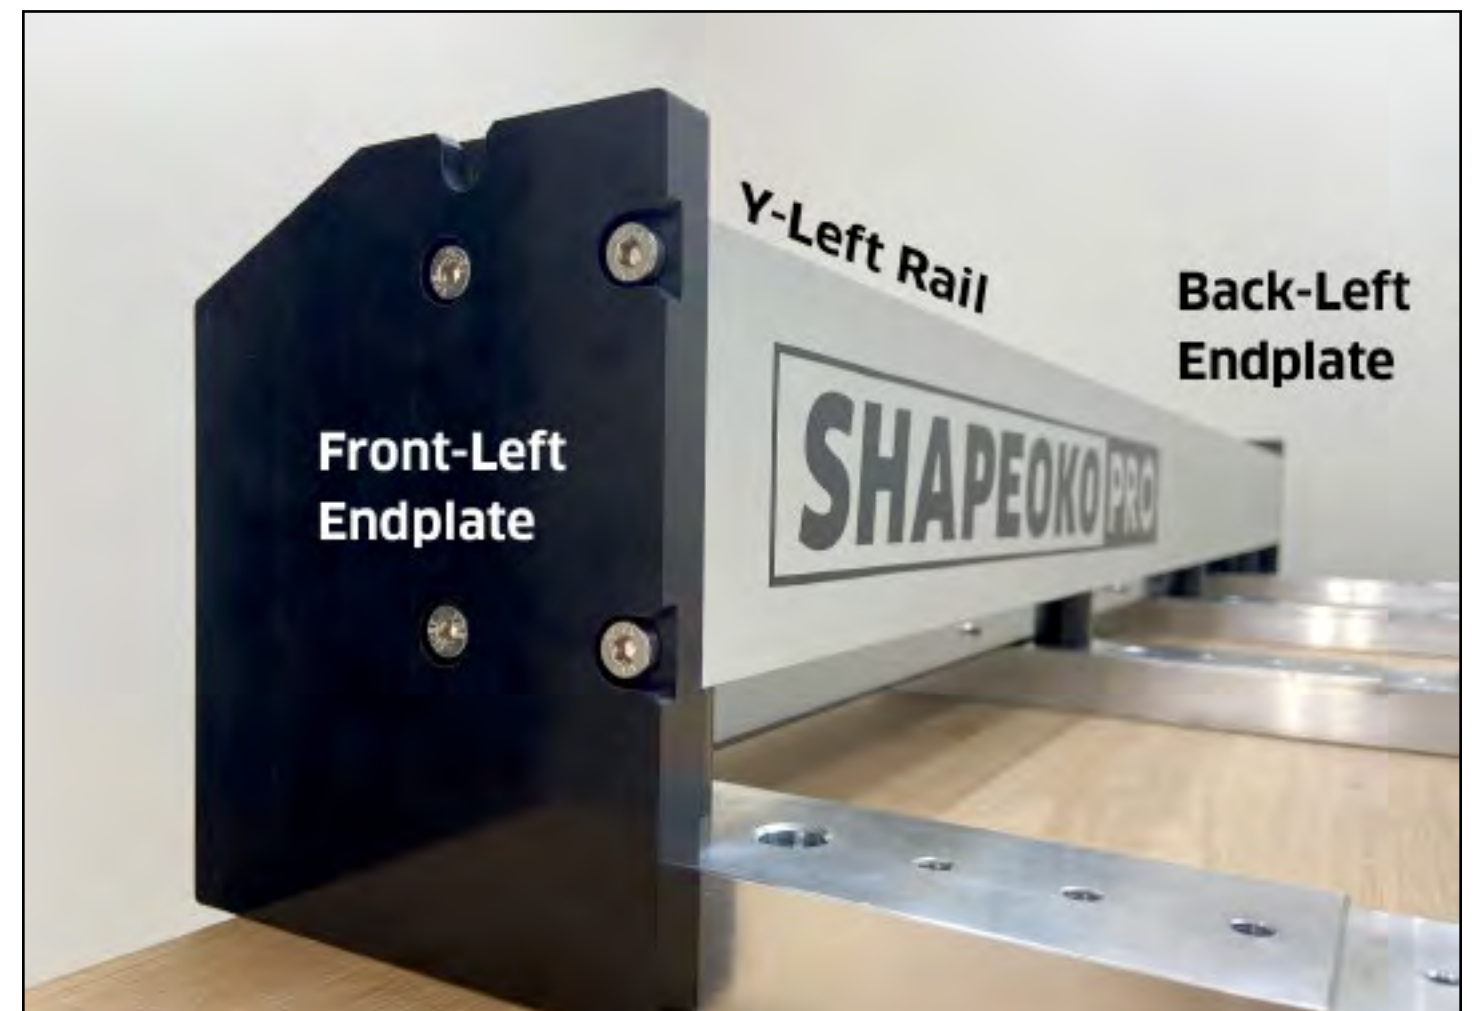

Figure 3-6
1. Position the two remaining endplates at either end of the Y-Left rail. **See Fig. 3-6.**
2. Use a 4mm hex key and four (4) M6×12mm low profile SHCS to secure each endplate to the rail. Fully tighten.